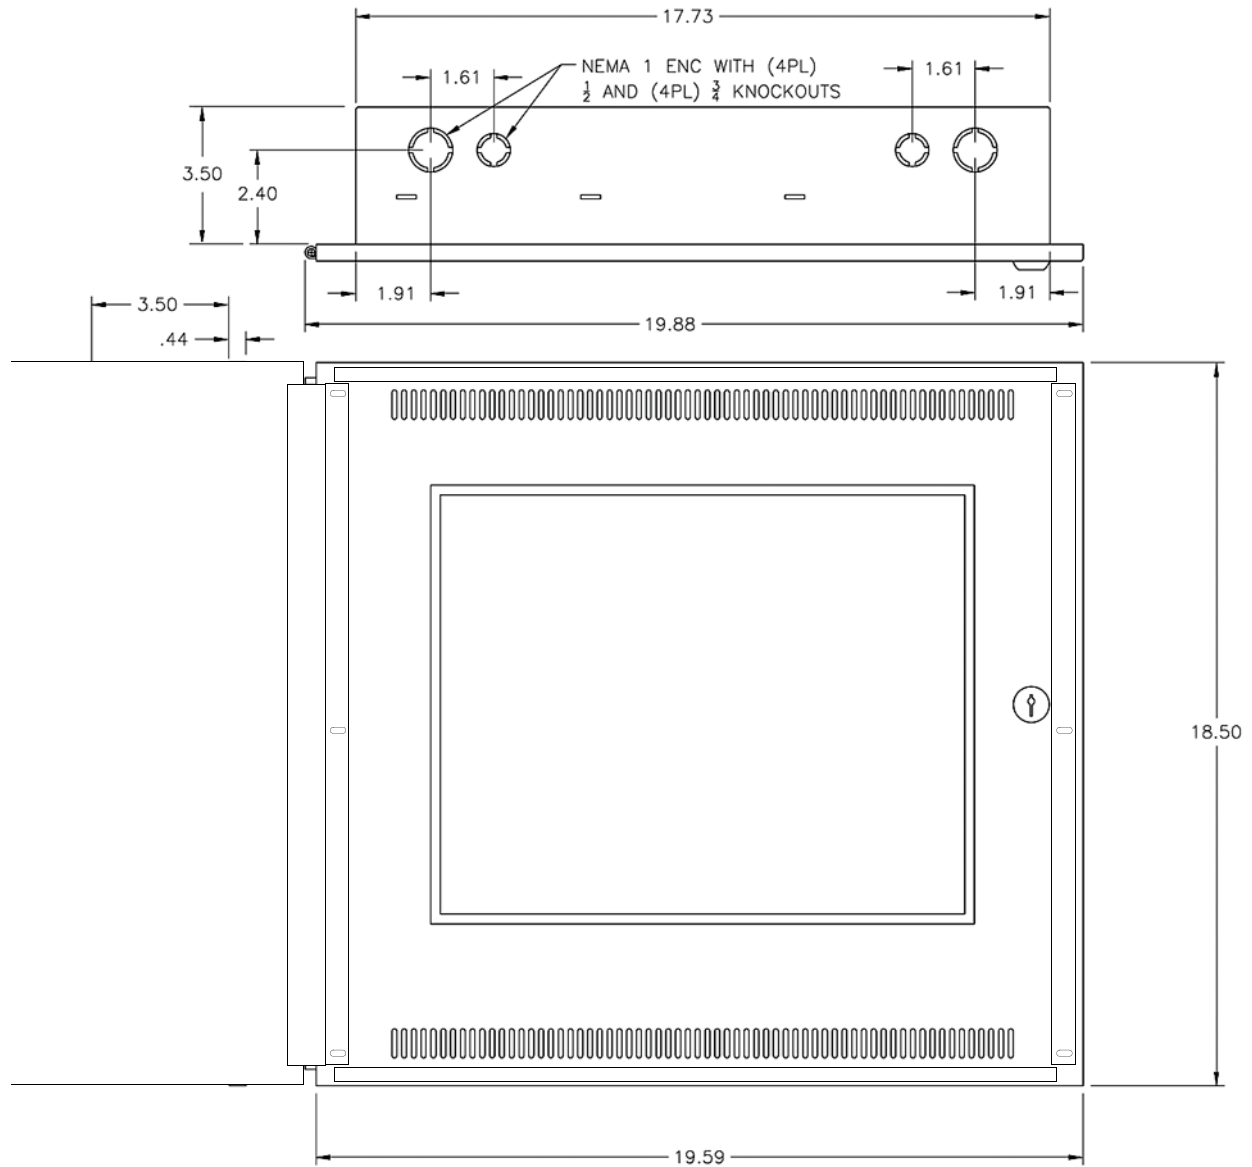

Figure 2.1 FIRSTVISION Dimensions (inches)
Step 1a. Prepare a rough opening in the wall at the location FIRSTVISION will be mounted according to the enclosure’s dimensions specified in Figure 2.1 on page 13).